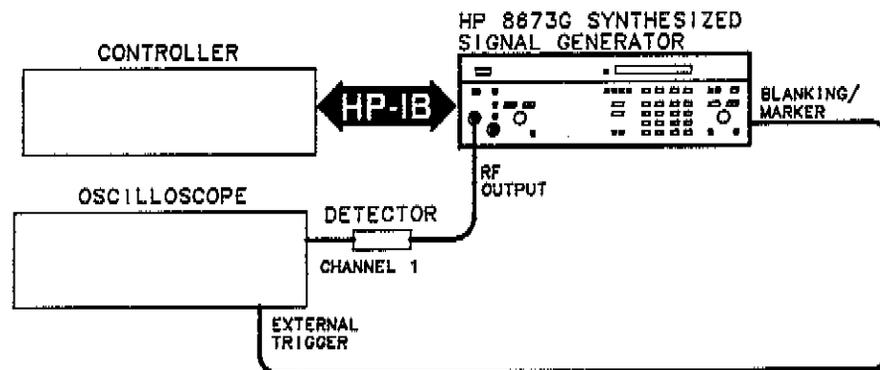

Figure 4-17. Output Level Switching Time Test Setup
1. Set up the equipment as shown in Figure 4-17. The external trigger input of the oscilloscope is connected to the Signal Generator's rear panel Blanking/Marker output. This signal will trigger the oscilloscope at the start of a frequency change when any sweep mode is selected. By making a simultaneous frequency and level change, the oscilloscope can be triggered to view the level switching process.